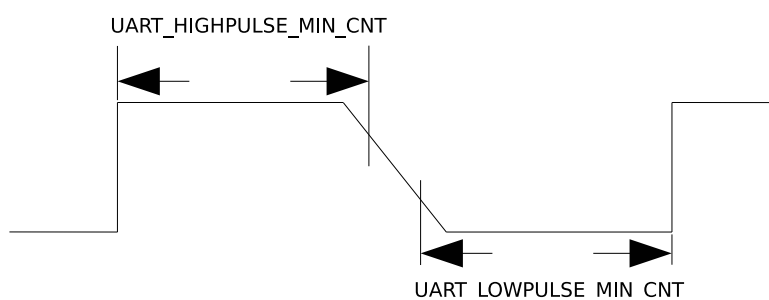

Figure 19.4-3. The Timing Diagram of Weak UART Signals Along Falling Edges
2. If UART signals are weak along falling edges as shown in Figure 19.4-3, which leads to an inaccurate average of `UART_LOWPULSE_MIN_CNT` and `UART_HIGHPULSE_MIN_CNT`, use `UART_POSEDGE_MIN_CNT` to determine the transmitter's baud rate as follows: